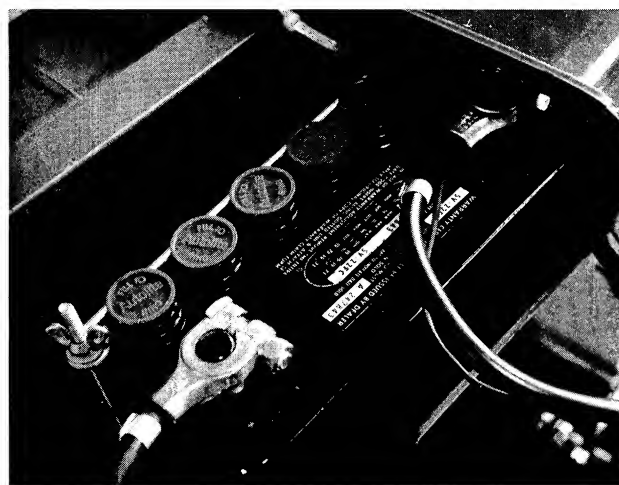

FIGURE 3. BATTERY INSTALLATION
Step 5. Place the battery hold down assembly over the battery and slide the battery into place. See Figure 3.